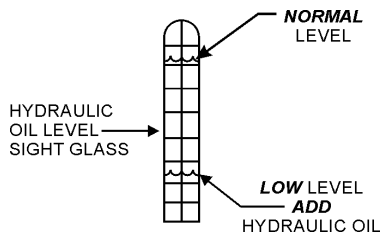

Figure 4. Sight Glass
1. Make sure the hydraulic reservoir is full. Hydraulic oil should be visible within 3/4 height of the sight glass (Figure 4). If low use grade AWD 46 hydraulic oil or equivalent.